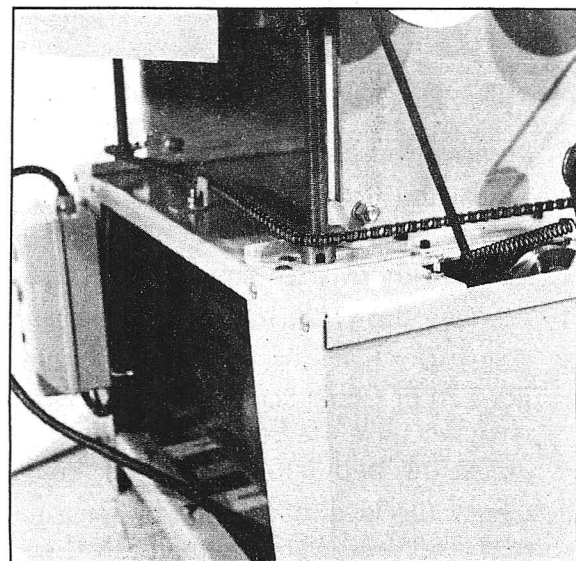

Fig. 18
3. Drive the Roll Pin (RZ-59) through the Sprocket (RS-4) in the corner screw that is to be removed. (fig. 18)